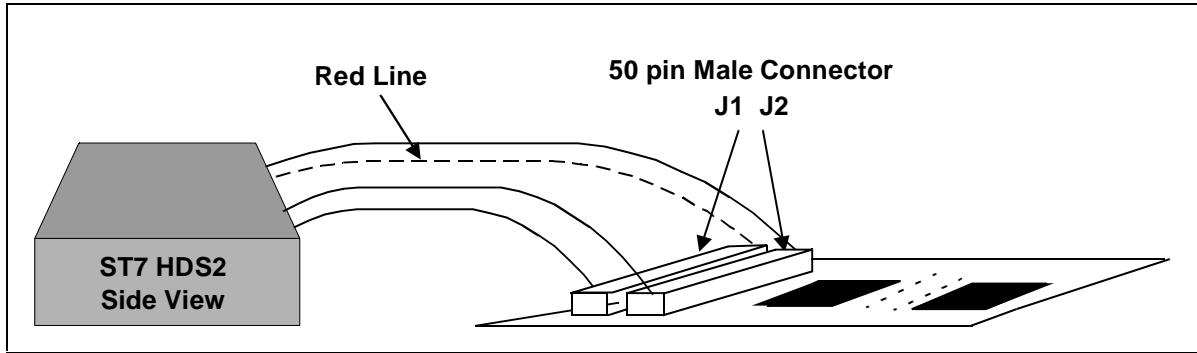

Figure 5: Connecting the Emulator to the Probe
- 2 Plug the two 50-wire flat cables into J1 and J2 connections on the probe, as described below (refer also to *Figure 5*):